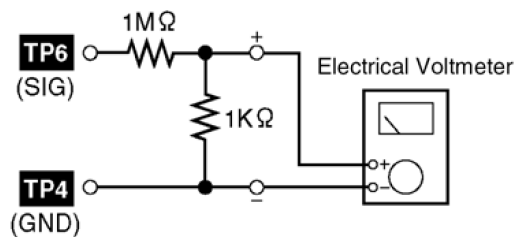

Fig. 12
1. Connect a frequency indicator. (Cf. Fig. 12)
1. Connect an electrical voltmeter. (Cf. Fig. 12)